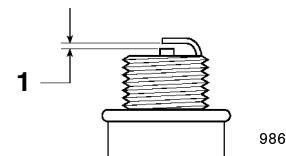

Figure 32
- Set the gap on the new plug as shown in Figure 32.